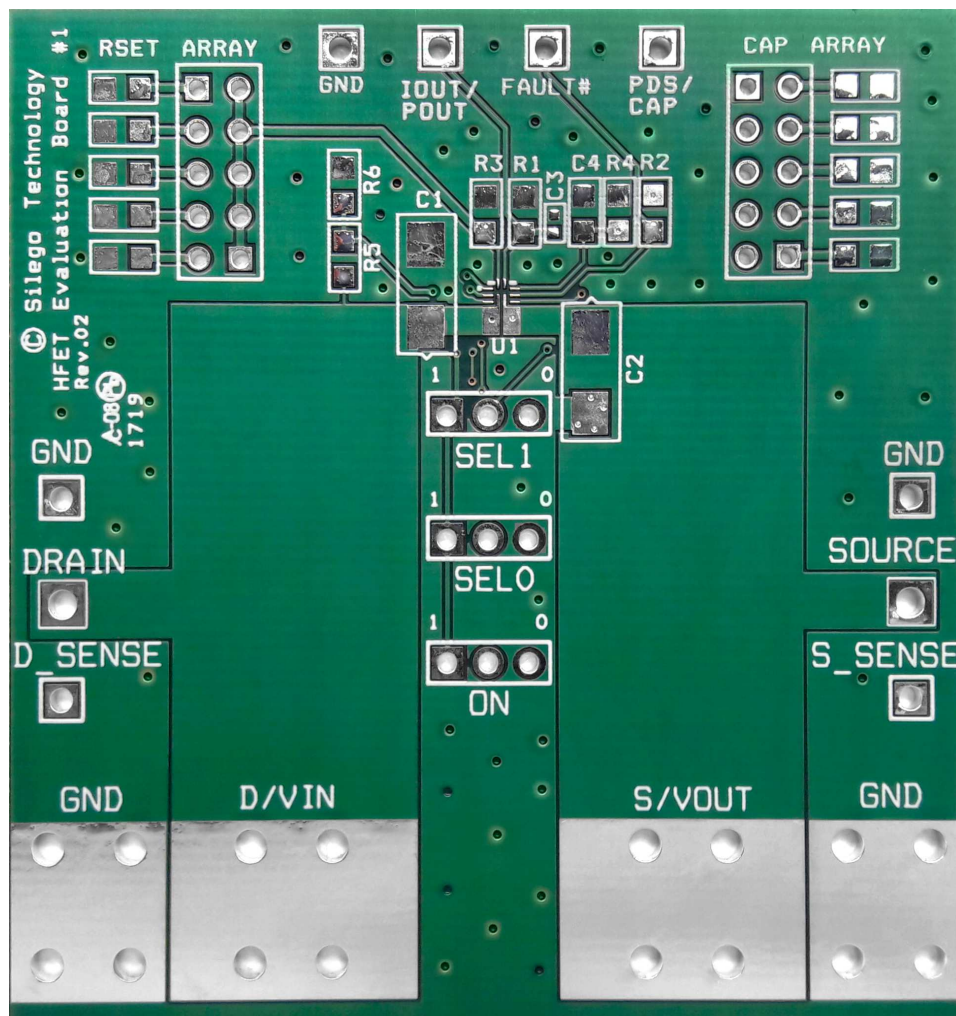

Figure 26. SLG59H1017V Evaluation Board
1. Since the  $V_{IN}$  and  $V_{OUT}$  pins dissipate most of the heat generated during high-load current operation, it is highly recommended to make power traces as short, direct, and wide as possible. A good practice is to make power traces with absolute minimum widths of 15 mils (0.381 mm) per Ampere. A representative layout, shown in Figure 26, illustrates proper techniques for heat to transfer as efficiently as possible out of the device;
A High Voltage GreenFET Evaluation Board for SLG59H1017V is designed according to the statements above and is illustrated on Figure 26. Please note that evaluation board has D\_Sense and S\_Sense pads. They cannot carry high currents and dedicated only for  $RDS_{ON}$  evaluation.